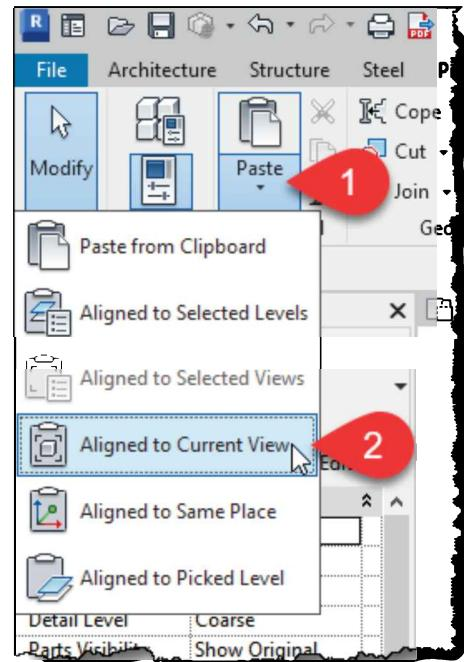

FIGURE 6-2.2
5. Select **Modify → Clipboard → Paste → Aligned to Current View** (Figure 6-2.2).